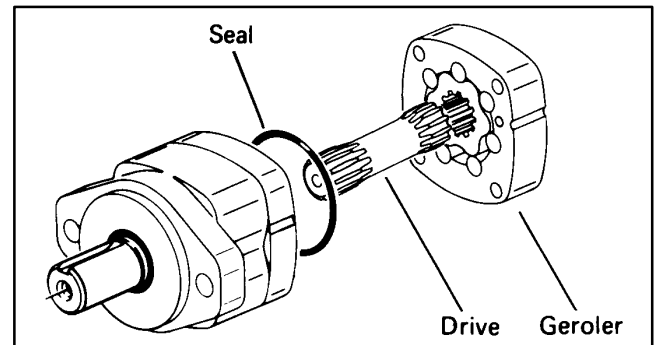

Figure 73
15. Remove the 3[76] diameter seal from wear plate, see Fig. 73.